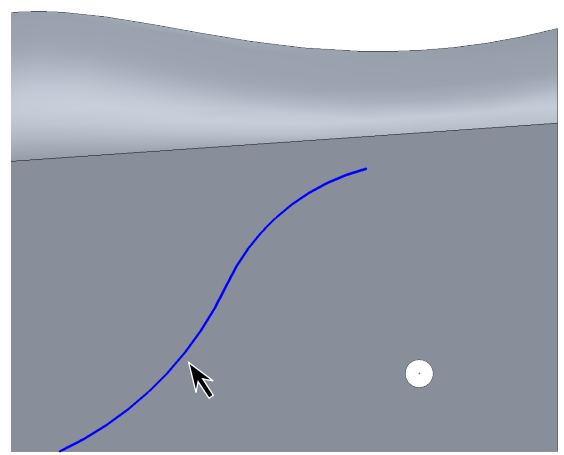

Fig. 81
Step 7. Sketch **tangent arc** between bottom endpoint of arc and bottom edge of body, **Fig. 81**.